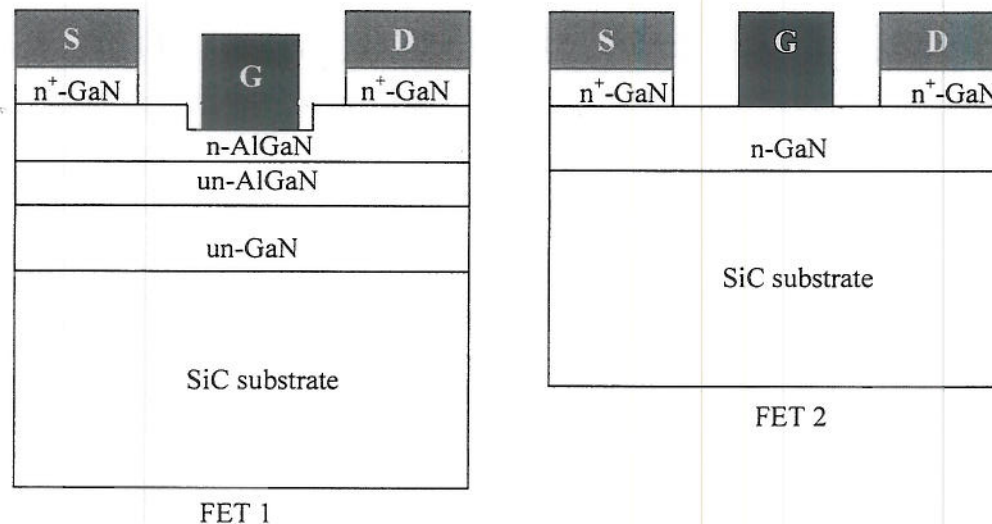

Figure 4.1: Two Schottky-gated heterojunction FETs. Left: FET 1 and right: FET2. The dimensions and doping densities are the same for both FETs.
- e) The material cross section of two Schottky-gated heterojunction FETs, based on III-V materials, is given in Figure 4.1. Using the appropriate technical terms, explain why the performance of FET 1 is expected to be better than FET 2. [4]